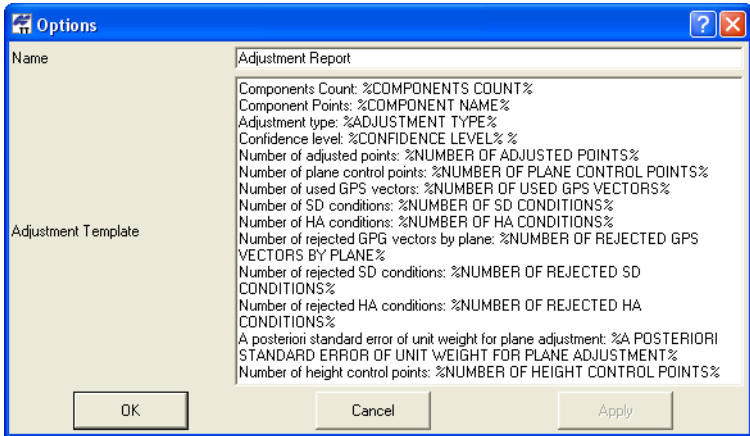

Figure 7-24. Item Options – Adjustment Report
- Adjustment Report – edit the name, type template items in the same manner as displayed on screen or delete template items, then click **OK** (Figure 7-24).